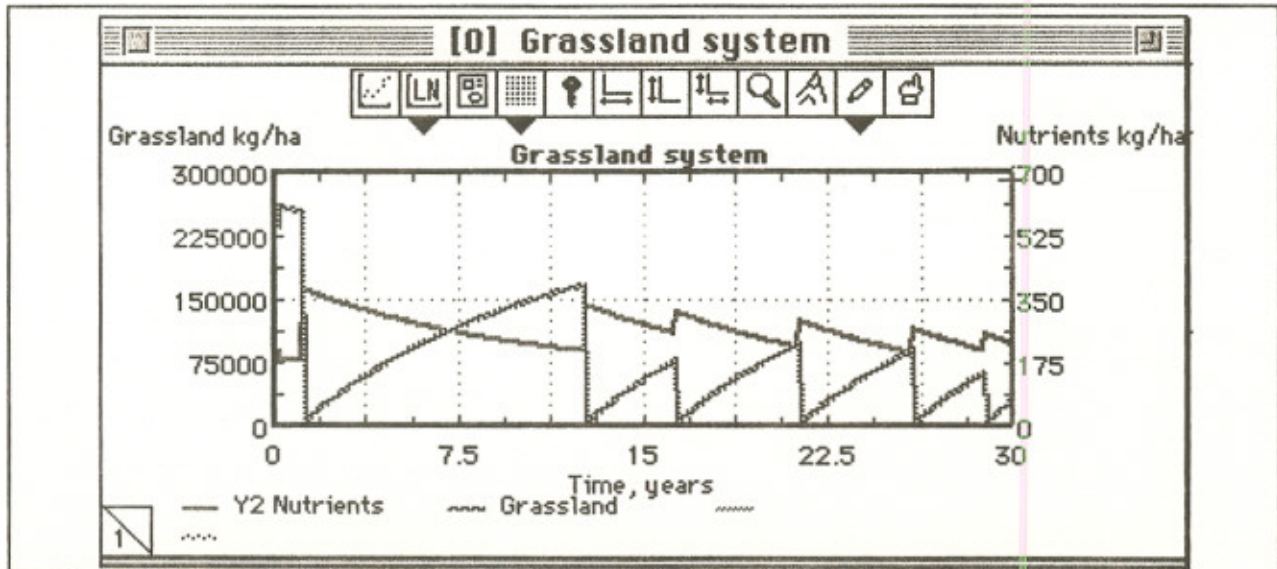

Figure 27. Simulation graph of fire which starts by lightning when the grassland biomass enough to sustain fire (reached its burnable threshold).
Your graph will resemble Figure 27, but will not be exactly like it. Be sure you know which line is biomass and which is nutrients and what happens to each when fire comes. Why do they go in opposite directions between fires? Why are they about level at the beginning of the graph?
1. What will happen to the grassland if fire is always put out when it starts? What will you do in the fire sources dialog box to be sure there is no fire? Run the simulation. Compare the changes in grassland biomass and nutrients to those in Figure 27 (with lightning fires). What do you suppose this heavy buildup litter causes when a fire finally gets going?
3. Change the Sunlight dialog to put this grassland in your part of the country. (First, change the threshold in the Fire dialog box back to the original so you can compare this graph to that in Figure 27.) How does this change the pattern of lightning fires? Explain.
3. Run the simulation and compare it with Figure 27. Remember the random numbers make each run different.